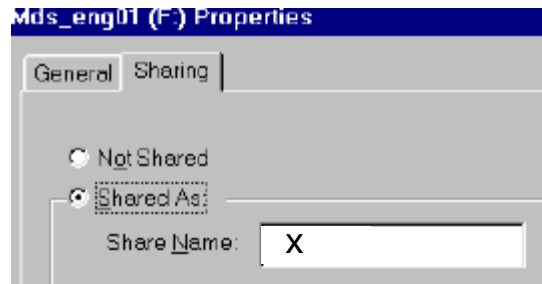

Figure 14-8 Properties Window
3. Click on *Shared As* button in Properties window (see Figure 14-8), and type **x** in "Share Name:" box.